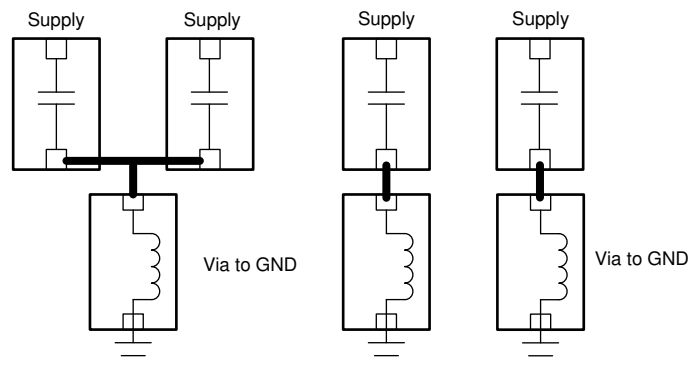

Figure 4-3. Decoupling Capacitors and VIA to Ground
- Each decoupling capacitor needs to have a separate via to ground to minimize noise coupling (see Figure 4-3).
The right side of the Figure 4-3 uses separate vias to ground has less noise coupling.